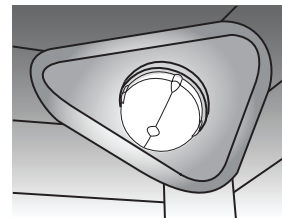

Figure 43: Halogen light
1. Pull the bearing glides to the front of the outer compartment glide channels until they snap into place (See Figure 43).